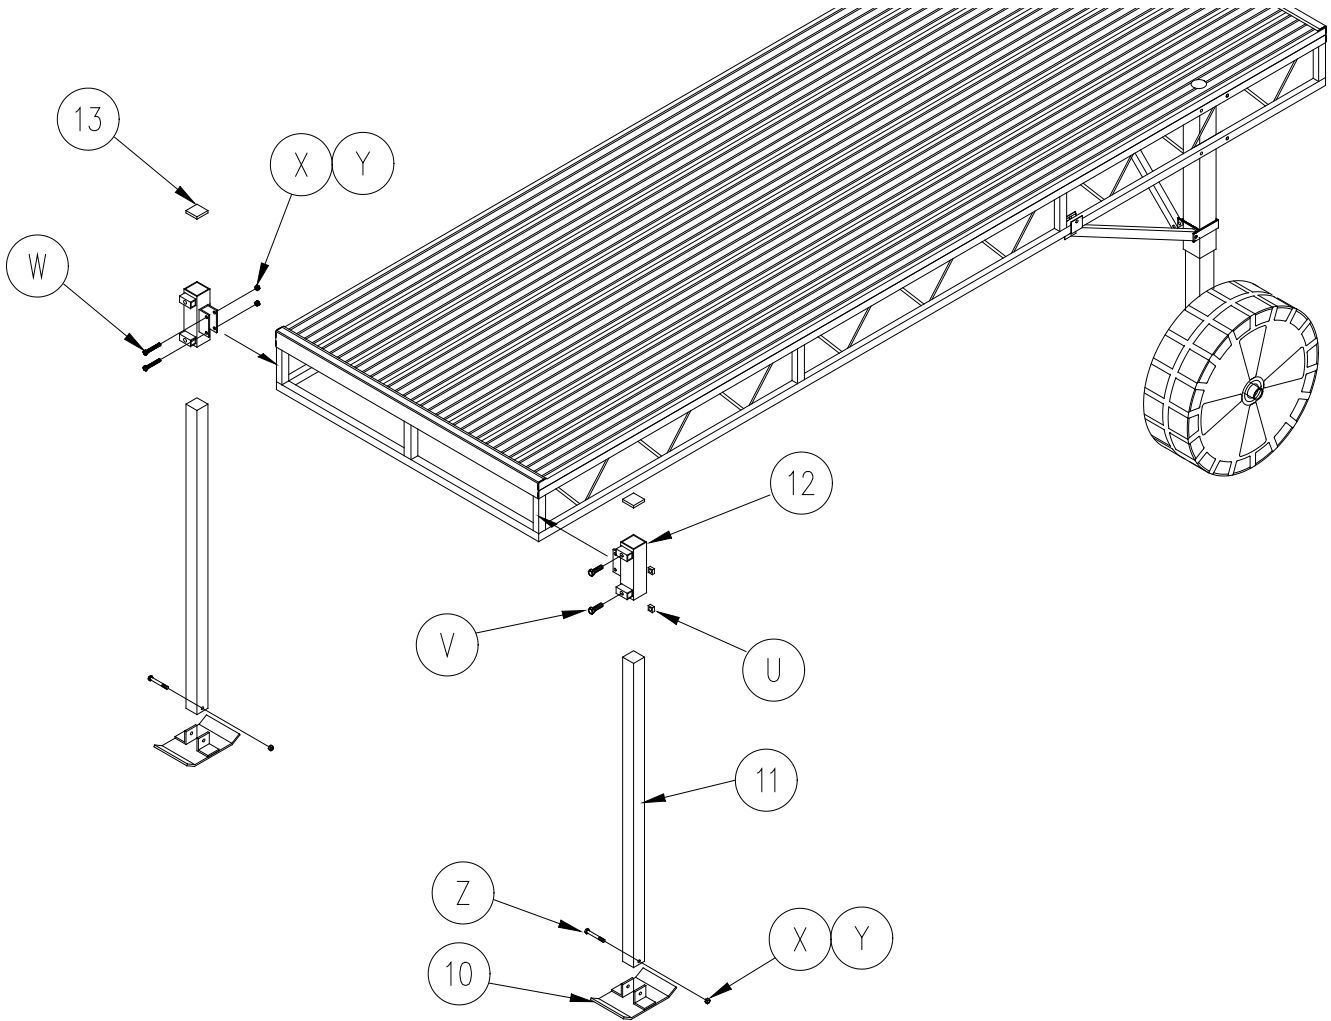

Figure 2-9
1. (Refer to Figure 2-9) Attach the shoreline support bracket weldment (detail 12), to the dock frame. Fasten using two each, 3/8" hex head cap screw (detail W), flat washer (detail Y), and hex nut (detail X). Tighten securely.